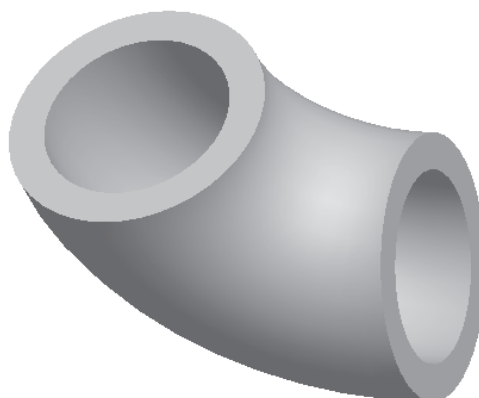

Figure 7-90 Shell feature without datum
- Create the shell feature of a given thickness, refer to Figure 7-90.
The default trimetric view of the shell feature is shown in Figure 7-90. You can use the middle mouse button to view the model from various directions.